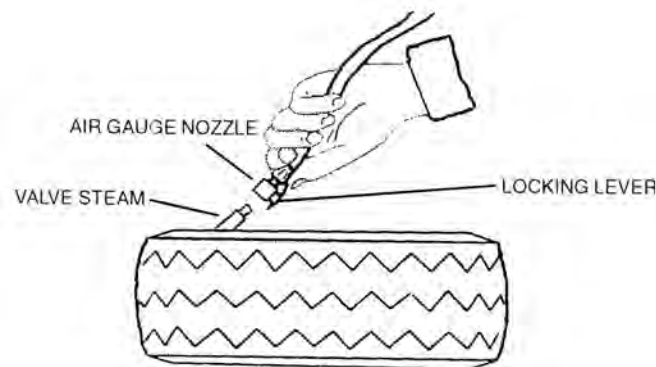

Fig. 8
4. Remember to inflate the tire with brief jets of air, checking the air pressure frequently. Once the proper air pressure has been reached, disconnect the nozzle from the valve stem and screw a valve cap onto the stem. (Fig.8)